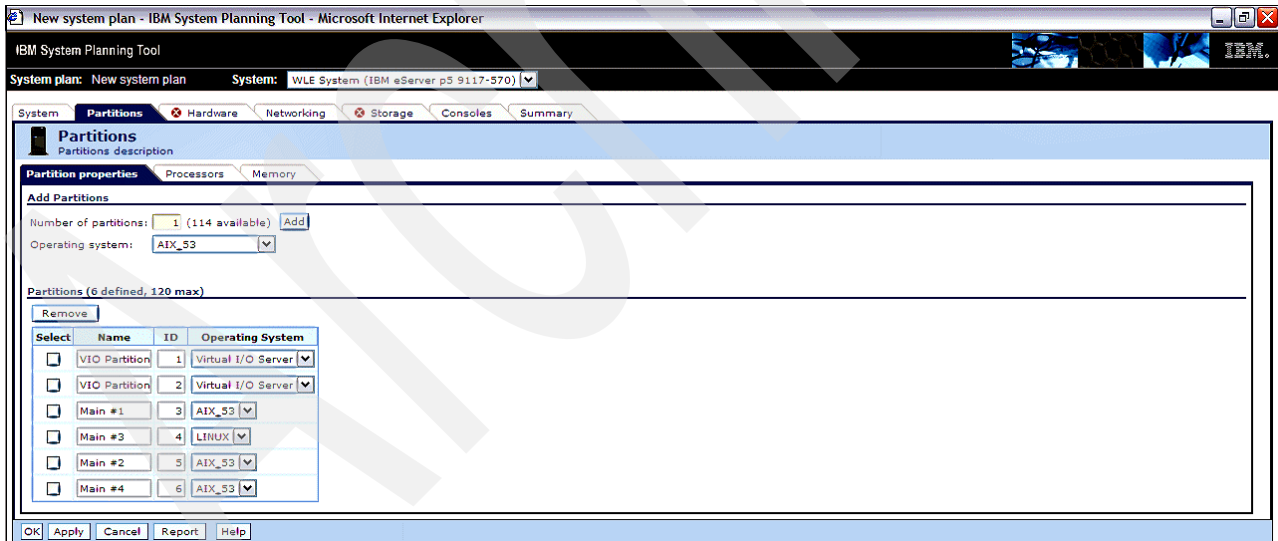

Figure 5-36 Partition definition
16. Click the **Partition** tab to see the selection of the assigned names that is generated from WLE. You may change the name. The names could also be changed on WLE when you added partitions. See Figure 5-36.